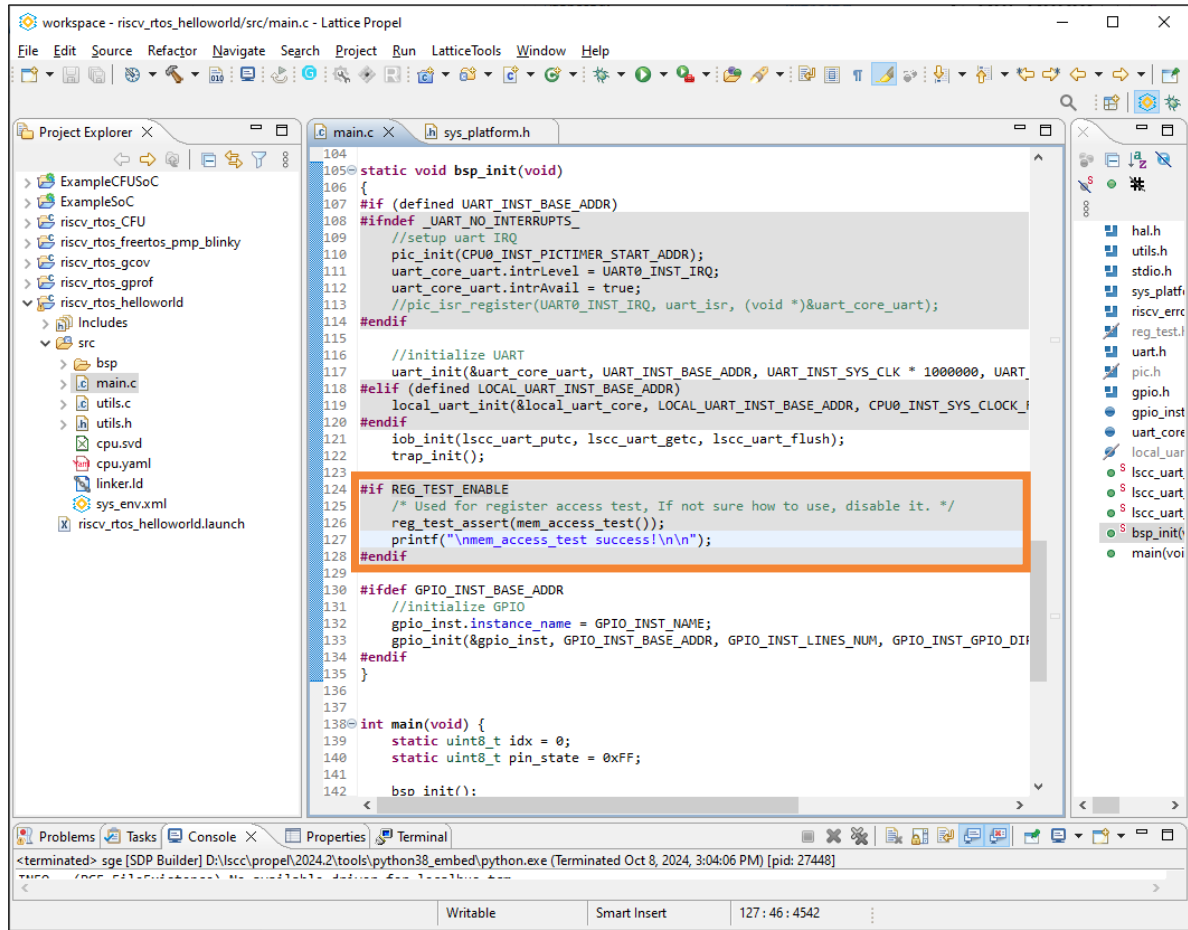

Figure F.4. Test Entrance
1. Find the test entrance from the C project just created (Figure F.4).